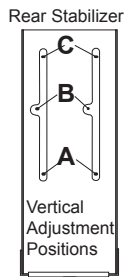

Figure 3
- ment in the room. When the desired angle is achieved, tighten the screws. Refer to figures 3 and 4.